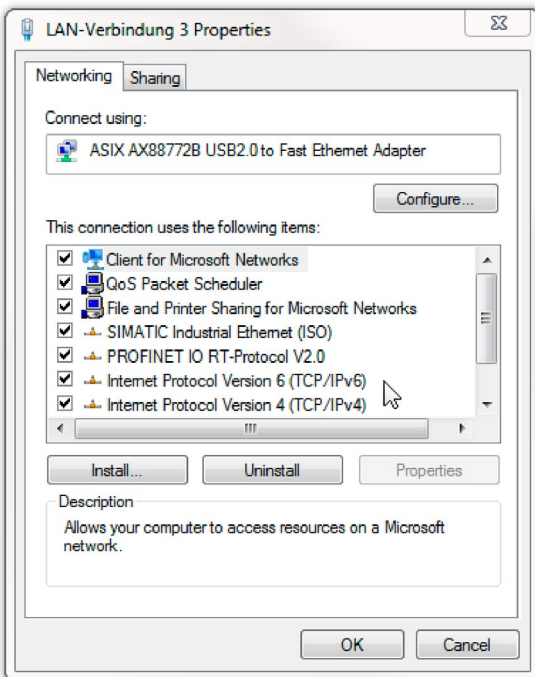

Fig. 47: LAN connections
2. Double click the LAN card which is connected with the sensor. A menu will open (Fig. 47).